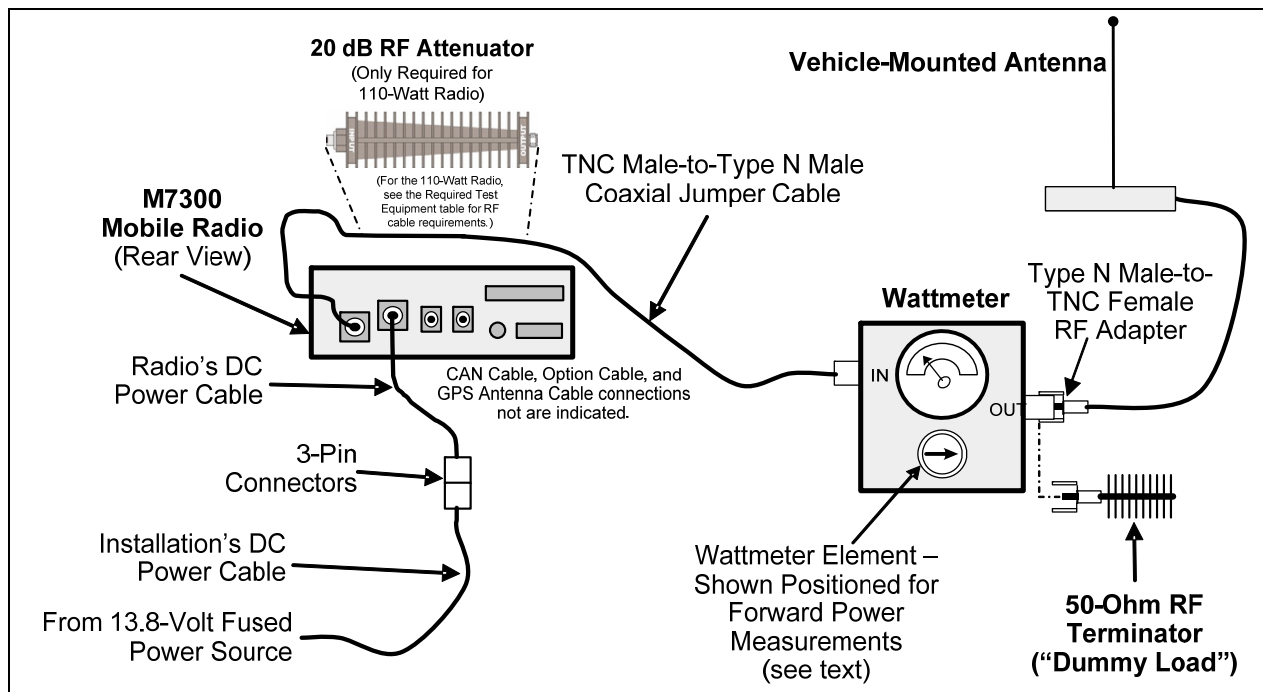

Figure 16-1: Wattmeter Connections for Antenna System Tests
1. Using the Type N male to TNC male RF coaxial jumper cable, connect the radio's antenna connector to the wattmeter's input connector. Refer to Figure 16-1 as necessary.
1. Connect the antenna cable from the vehicle-mounted antenna to the wattmeter as shown in Figure 16-1.